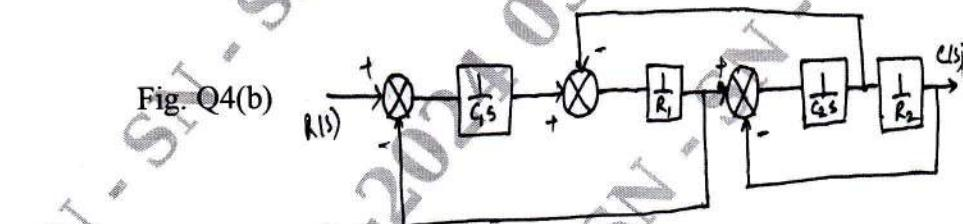

Fig. Q4(b)
- b. For the block diagram, shown in Fig. Q4(b), determine the transfer function $\frac{C(s)}{R(s)}$. (10 Marks)